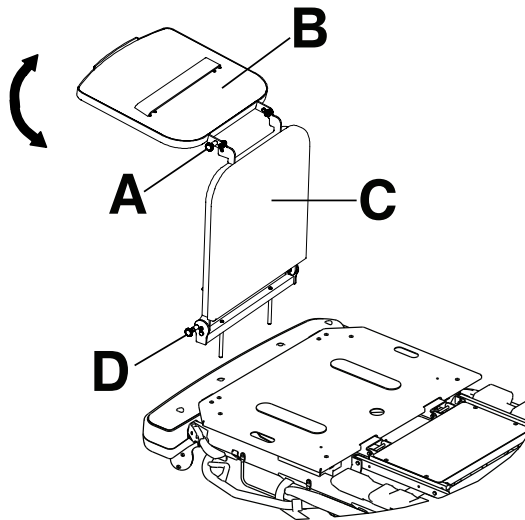

Figure 6: Defibrillator tray/foot extender
1. Pull out the top knob (A) (Figure 6 on page 18).
2. Pivot the defibrillator tray (B) until the tray is flat over the foot end of the product. Release the top knob (A). Make sure that the defibrillator tray is locked in place.
To convert the defibrillator tray/foot extender to a foot extender (Figure 6 on page 18):